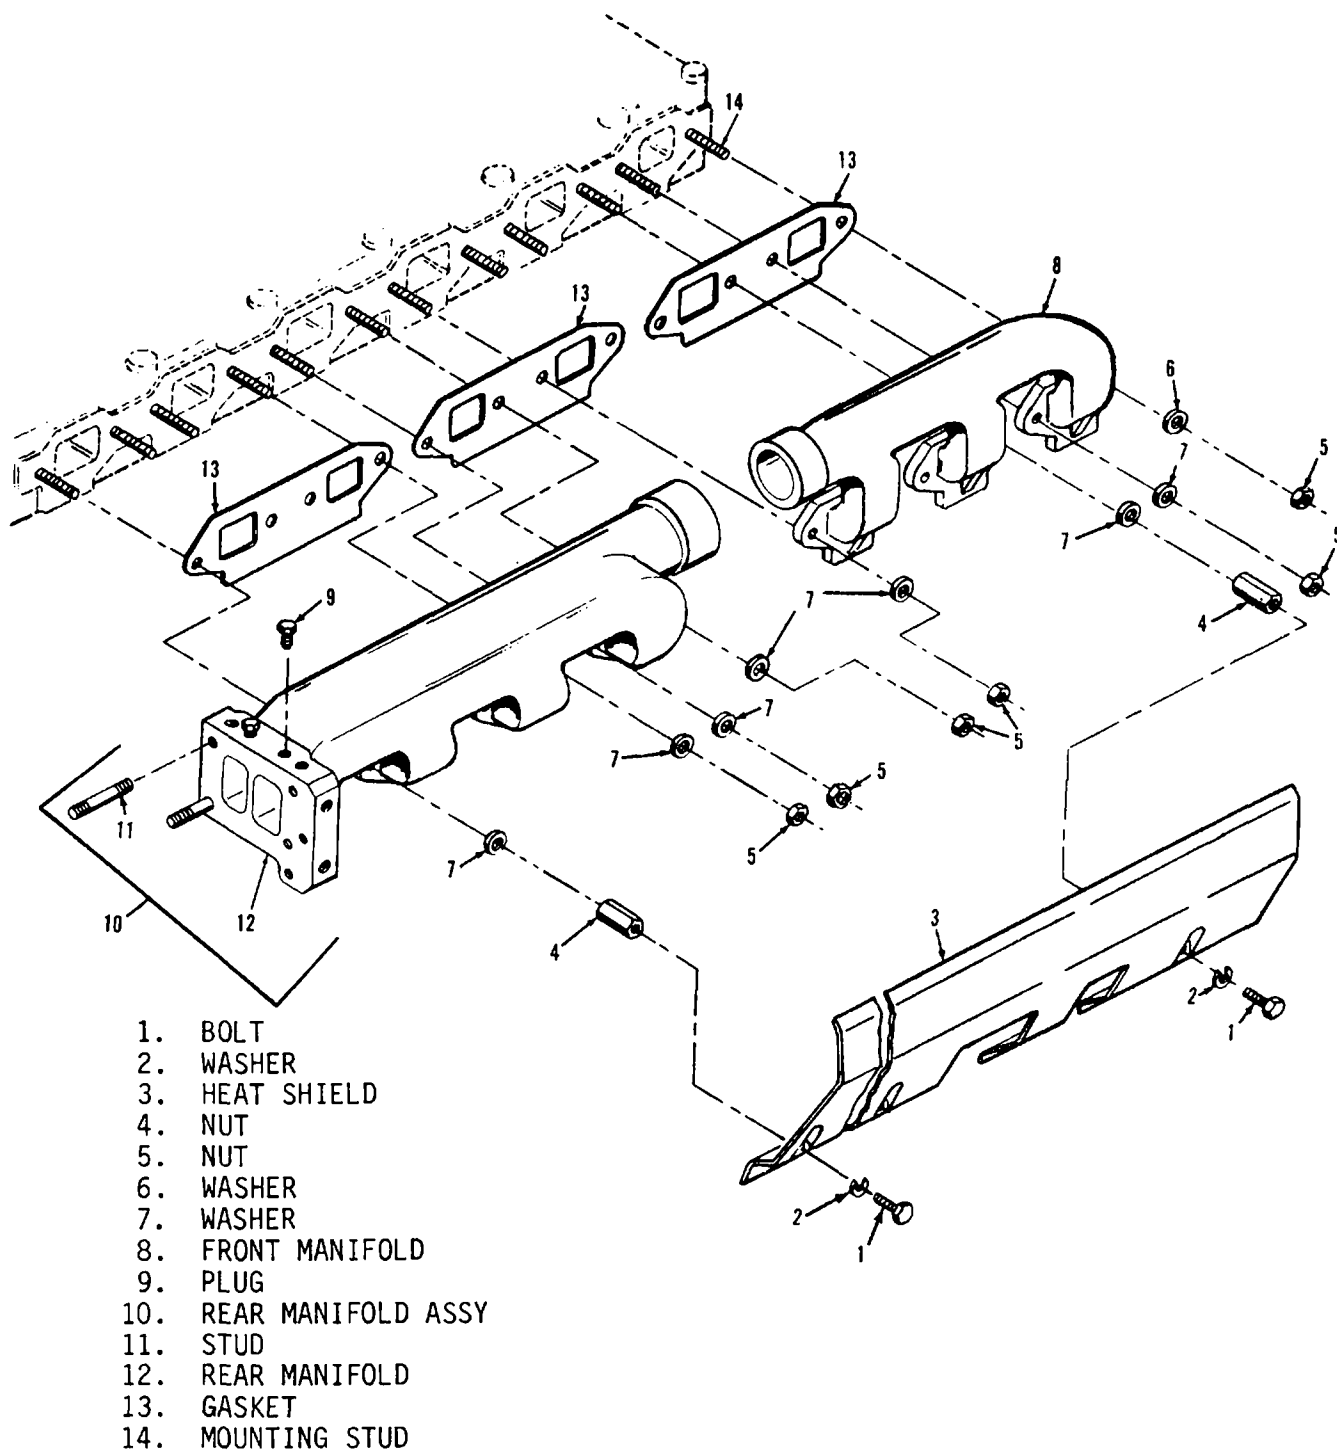

Figure 11-30. Exhaust Manifold, Exploded View
- b. Remove minor nicks and burrs from manifold mating surfaces using a file or hone (see figure 11-30).